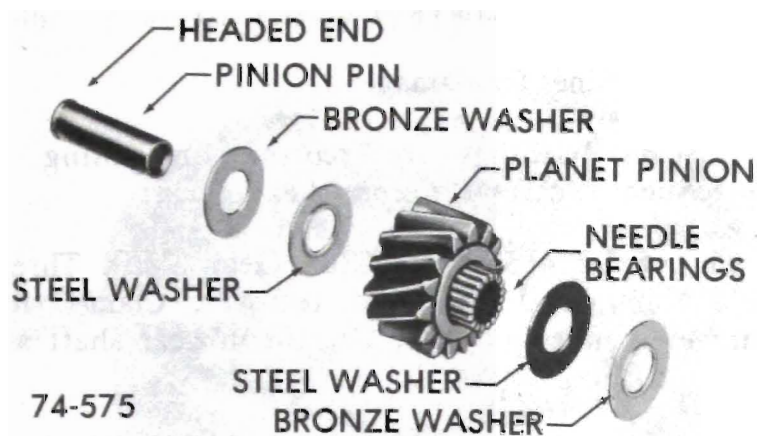

Figure 76-118
6. Install eighteen (18) needle bearings into each pinion, using petroleum jelly to hold the bearings in place. Use a pinion pin as a guide. See Figure 76-118.